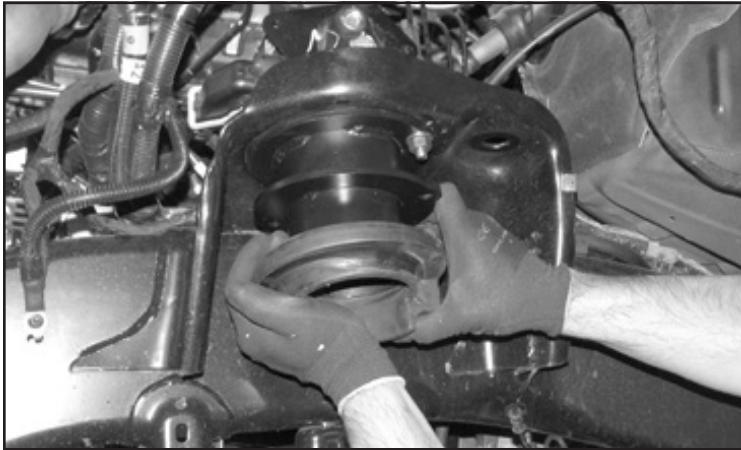

FIGURE 13 - STEP 13
13. Locate the factory coil spring isolator and slide it over the Fabtech coil spacer. **SEE FIGURE 13**